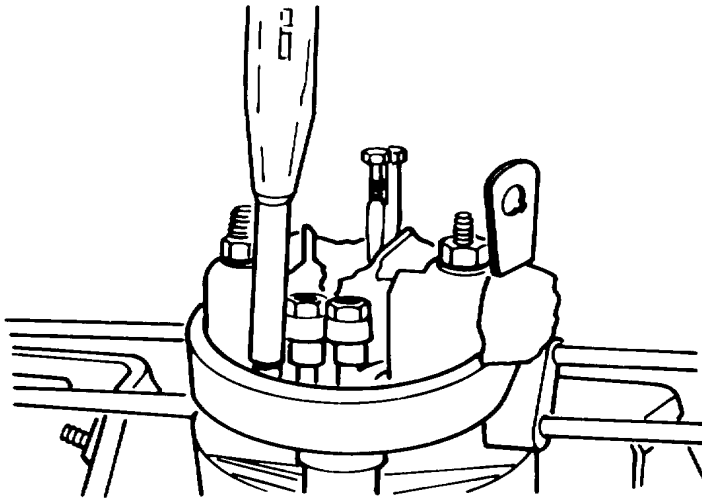

Figure A-8. Cylinder Head
- i. Cylinder Head.* With an 8mm nut driver, remove the push rod tube retaining spring. (Figure A-8)